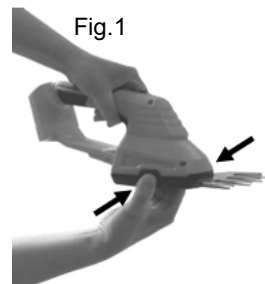
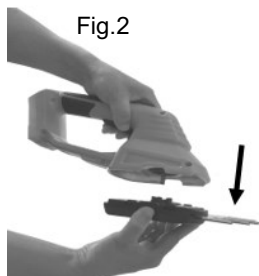

Fig.1
Fig.2
1. Push the blade release buttons (Fig. 1) on both sides and remove the blade at the same time. (Fig. 2).